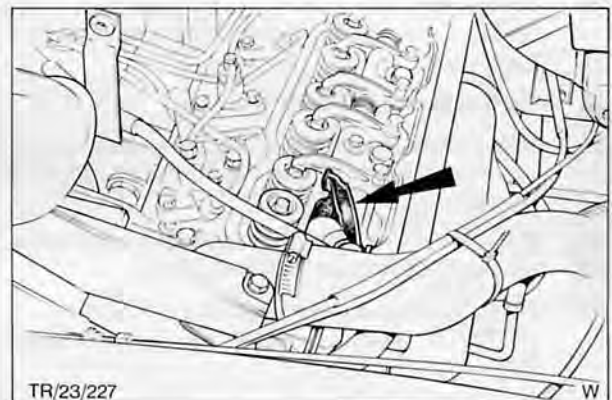

Fig. 50. Push rod removed and rocker arm turned through 90°
- B. Loosen No. 1. exhaust valve adjuster screw clear of push rod. Slide rocker arm sideways, detach push rod and turn rocker arm through 90°, Fig. 50.